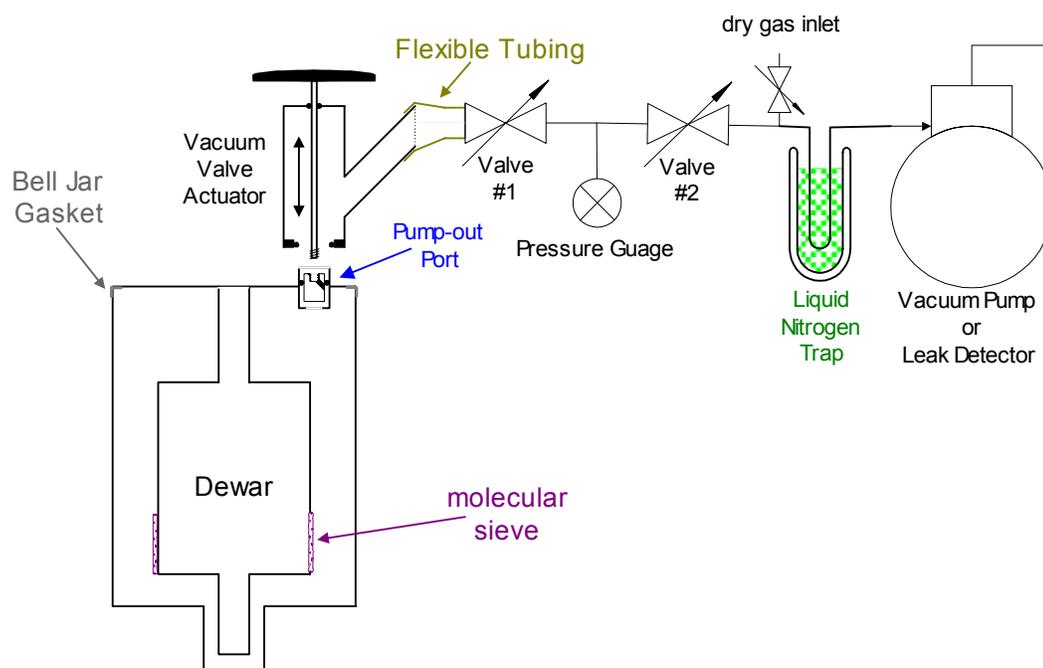

Figure 1: Schematic of dewar pumping components
You will need a Vacuum Valve Actuator (Tristan model VVA or equivalent), a vacuum pump (or helium leak detector), a thermocouple pressure gauge with millitorr sensitivity (or equivalent), two valves and connecting hoses or tubing. Connect the components as shown in Figure 1.
- Make sure all the components in Figure 1 are connected and leak tight. Valves #1 and #2 should be closed. If a LN2 trap is being used, fill the trap.